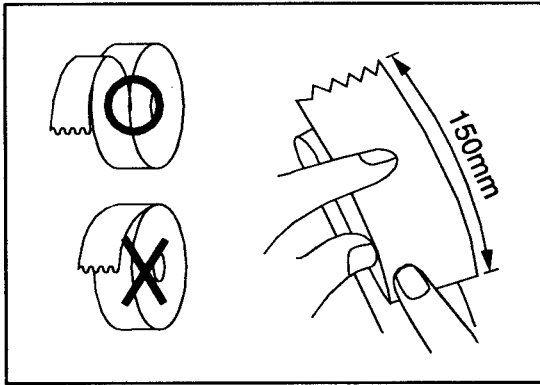

Figure 4-5. Folding Paper for Insertion
1. Using a new roll of paper, unroll the paper about 150 mm and fold the paper as shown in Figure 4-5.